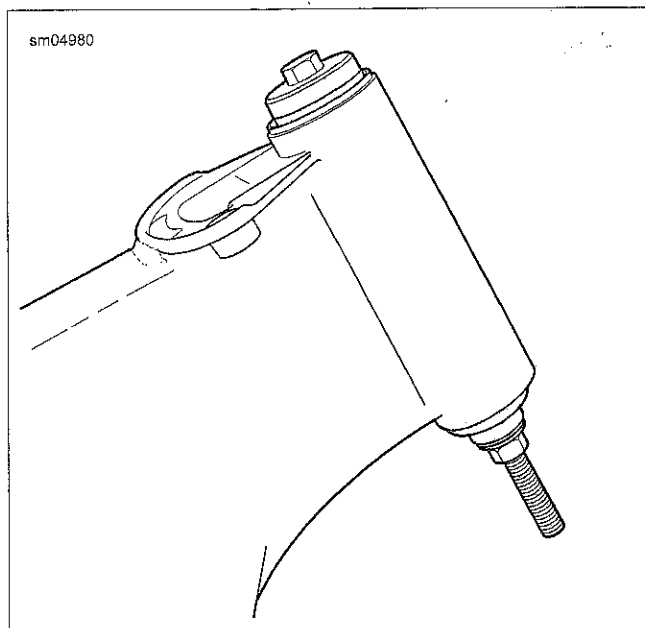

Figure 2-70. Install Steering Head Bearing Cups
2. See Figure 2-70. Install **new** bearing cups using components from WHEEL BEARING INSTALLER (Part No. B-50119):